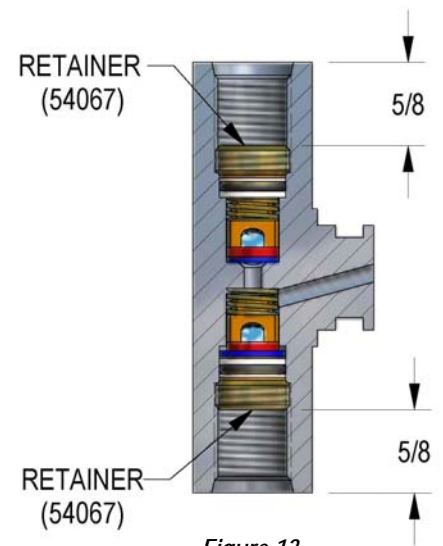

Figure 13
2. Place inlet port in upright position. Insert large spring, shank, ring, small spring, ball and seat into port until seated. It is important that the parts are in proper position before continuing. Slide one set of packing's (bronze, thin TFE back-up, o-ring, thick TFE back-up) in the order shown onto seat fitting. The thick TFE back-up will provide sufficient grip to retain the packing's during insertion. Then, using the assembly tool, screw the seat in until it is snug (approximately 5/8" below end face). Check that the ball is free to move by depressing it with a thin rod from the inlet end. *REFER TO FIGURE 13 FOR REFERENCE